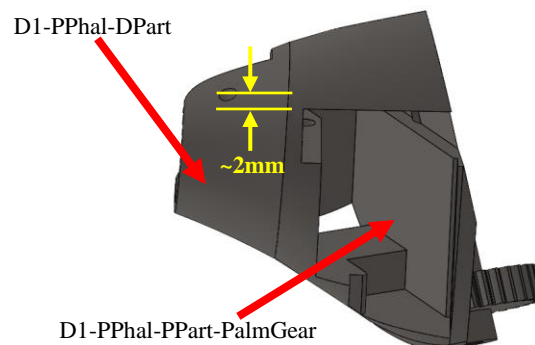

Figure 11b: View 2 - Mounting
2. Glue the two parts together in the orientation shown in **Figure 11b** to the right.